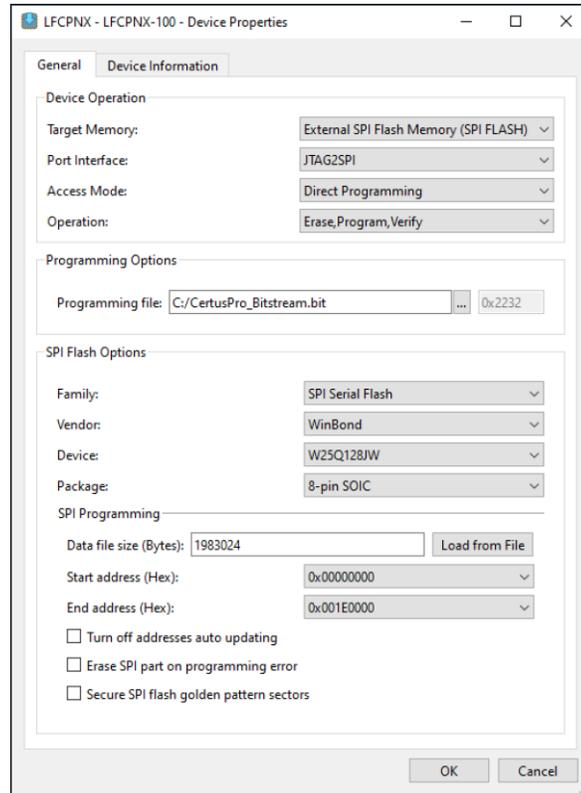
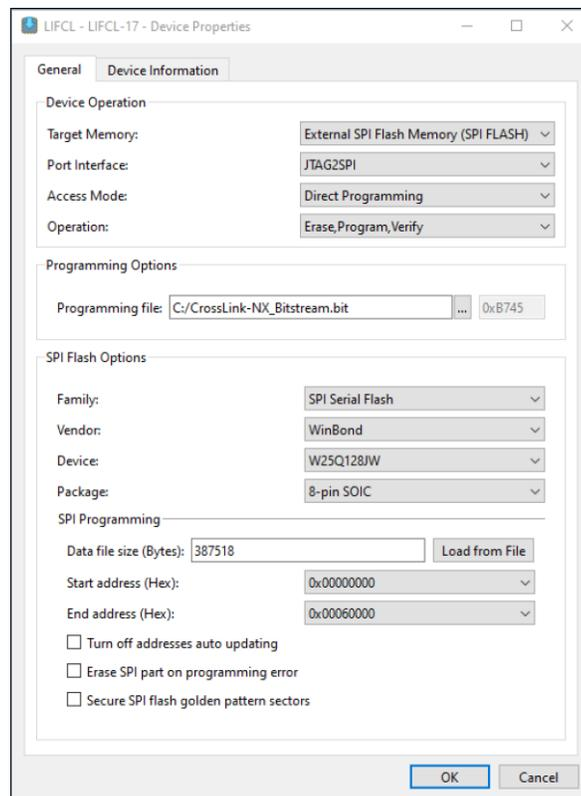

Figure 6.42. External Flash Memory (SPI flash) Device Properties – CertusPro-NX Device
Figure 6.43. External Flash Memory (SPI flash) Device Properties – CrossLink-NX Device
- Double-click the Operation field and select the appropriate programming mode. In this example, select Erase, Program, Verify for External SPI Flash Memory (SPI flash) (Figure 6.42 and Figure 6.43).